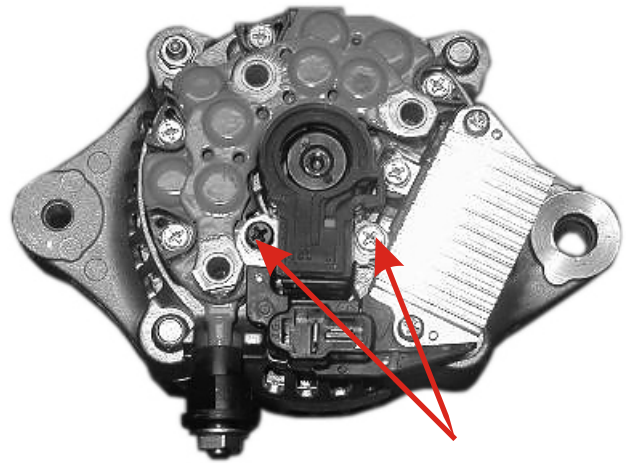

Fig.106
- Undo two bolts of the brush holder and take it out (Fig. 106)